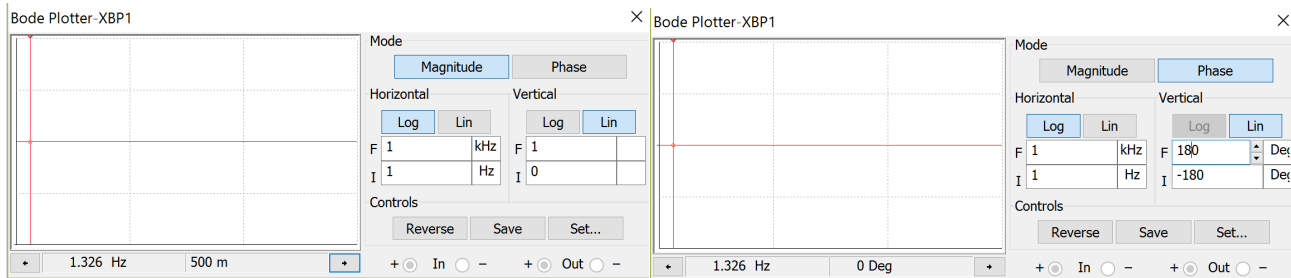

Figure 4.2: Bode Plot from Figure 4.1 with adjustments: Magnitude Response (Left), Phase Response (Right).
- Since it is known that resistors don't change the phase, the phase is verified in Figure 4.2 where the **phase is shown to be 0° for this circuit**. This means that **0° is added to the input phase to get the output phase**. This process might seem pointless for this circuit because the phase doesn't affect the output, but it will be important for circuits that have a Bode plot with a non-zero phase change.
The cursors are set in Figure 4.2 at 1.326 Hz for both the magnitude (left) and phase (right) modes. At 1.326 Hz the gain is listed as “500 m” (or 0.5 V/V) and the phase is 0°. It is apparent from the bode plot that both the gain and phase are constant so the cursors for this circuit will result in 500 m and 0° no matter what the frequency value of the input signal. However, for circuits with inductors or capacitors both the gain and phase will change as the frequency changes so changing the frequency limits, resolution, and cursor position are needed to determine the gain and phase at the desired frequency. Applying the values in the Bode plot in Figure 4.2 to the following input signal at a frequency of 1.326 Hz  $\rightarrow v_{in}(t) = 3 \cdot \sin(2\pi \cdot 1.326 \cdot t)$